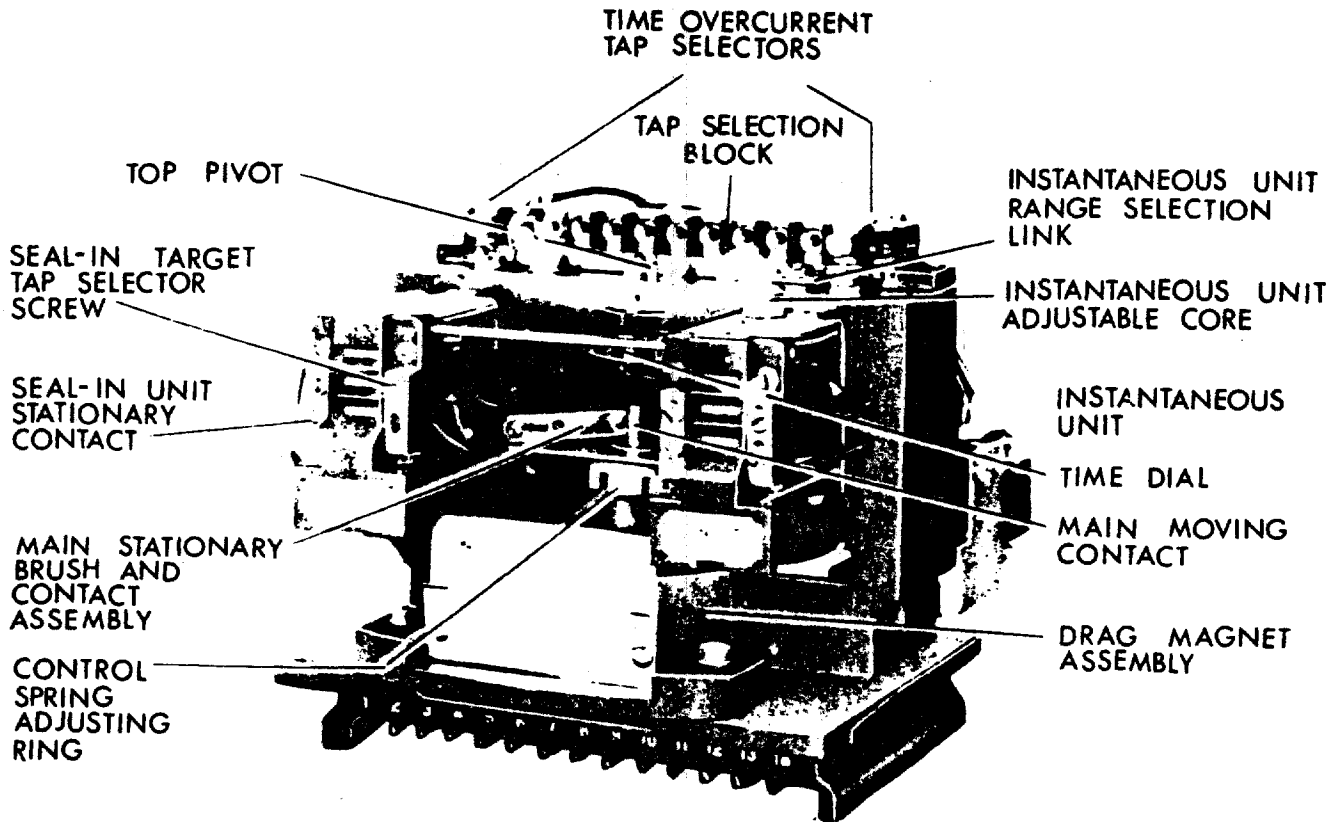

FIG. 1 (8043007) TYPE IFC66K RELAY, REMOVED FROM CASE, FRONT VIEW
1. Select the desired range by setting the link in the proper position. (See Figure 1 and the Internal Connections Diagram). Whenever possible always select the higher range since it has higher continuous rating.
However, it would be preferable to adjust the operating time as near as possible to 18.6 seconds. The drag magnet assembly should be approximately in the middle of its travel. The drag magnet assembly is adjusted by loosening the two screws securing it to the support structure. See Figure 1. Moving the drag magnet towards the disk and shaft decreases the operating time and moving the drag magnet away from the disk and shaft increases the operating time. The screws securing the drag magnet assembly to the support structure must be tight before proceeding with other time checks.